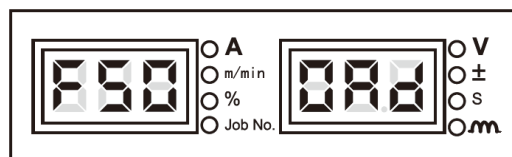

Figure 3-44 Screen for model display
2. Press the **Enter** key, the digital tubes will display the model of welding power source, as shown in Figure 3-44.